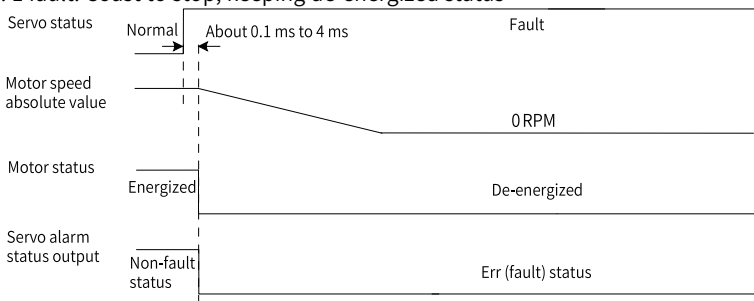

Figure 2-16 Sequence of "Coast to stop, keeping de-energized status" at No. 1 fault
- No. 2 fault (without brake): Coast to stop, keeping de-energized status (same as "Coast to stop at No. 1 fault", see "Figure 2-16 Sequence of "Coast to stop, keeping de-energized status" at No. 1 fault" on page 45)